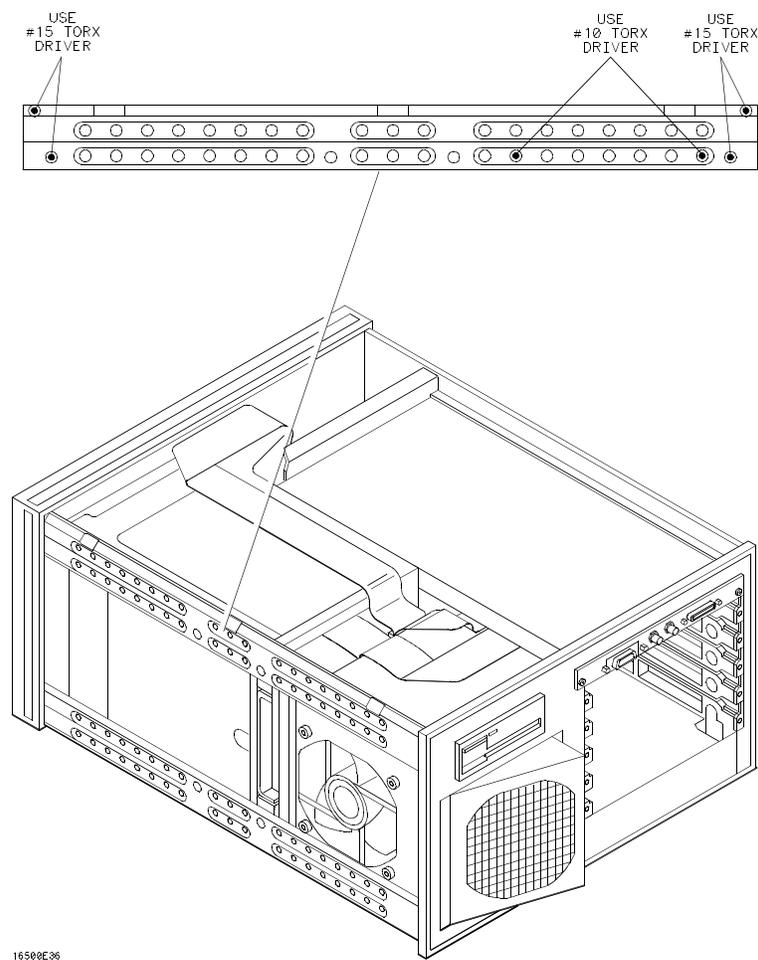

Figure 4-13. Bottom Rail Removal
8. Set the instrument on its left side, color module side up, then remove the bottom rail. See figure 4-13.